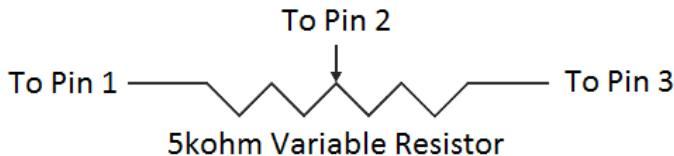

Figure 7 - Variable Resistor Connection
2. Prepare a 5 kΩ variable resistor and connect wires from pins 1, 2, and 3 as shown in Figure 7.